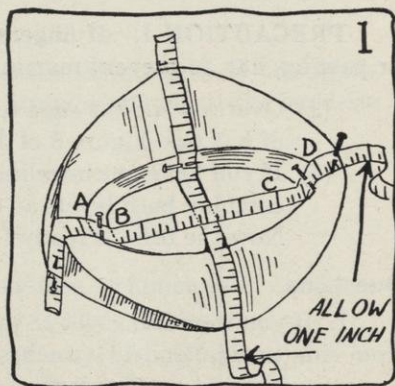

FIG. 1.
a. Measure largest part of brim, and allow for swing and seam (see Figure 1).
- (1) Place hat in your lap, so that the under facing will be up. At largest part of brim, let tape measure extend 1 inch at edgewire, and pin to edgewire. The under facing is measured, because it is the easiest one to get at when measuring.
- (2) Follow line of brim to headsize (see Figure 1, point A).
- (3) Be sure to drop the tape measure down 1 inch at headsize to *top headsize* and pin (see Figure 1, point B). (This differs from regular shapes, in that the tape measure is stretched right across.) Dropping the tape measure allows for the swing.
- (4) Then continue to stretch the tape measure across headsize at top headsize (see Figure 1, point C).
- (5) Then stretch the tape measure up 1 inch to the lower head size (see Figure 1, point D), and pin.
- (6) Then continue to edgewire at a point directly opposite where you began, and pin at edgewire.
- (7) Allow 1 inch to extend again and write down the final measurement (see Figure 1). Write *raw edge facing* alongside of this measurement.
- (1) Follow directions of Sections 1 a (1) through (7) above, only measure in the smallest part of the brim.
- (2) Write down that final measurement (see Figure 1). Write *raw edge facing* alongside of this measurement.